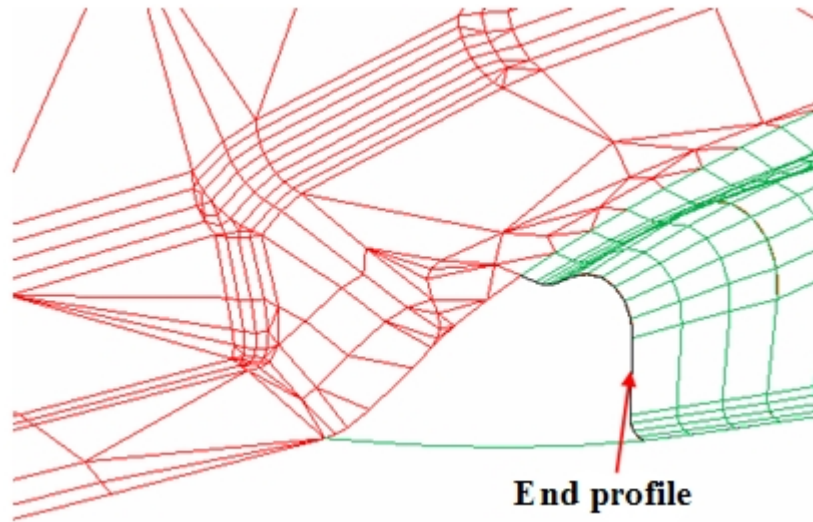

Figure 6.3.20 Select End Profile on Addendum
2. Click the SELECT PROFILE button to select a profile on the addendum boundary. The selected profile will be highlighted as illustrated in Figure 6.3.20.